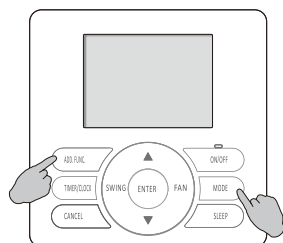

fig.1
1. Hold down Mode button and ADD. FUNC. button for 3s simultaneously to enter parameters customer-reading state, then customer-reading parameter codes will display in temperature display area. (See fig.1)